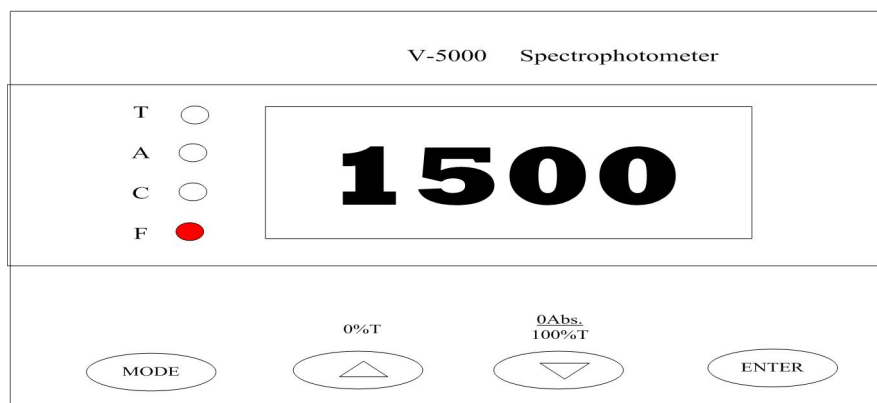

Fig.1-14
- b. If the current F value is 1000 , press the **△/0%T** key, until it goes up to 1500 . (Fig.1-14)